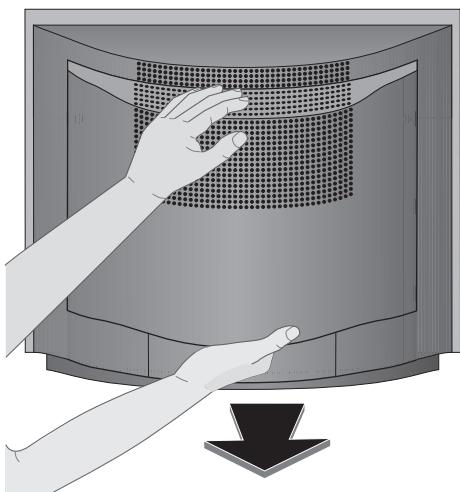

Fig. 3
- Pull off the rear panel toward the back (Fig. 3).